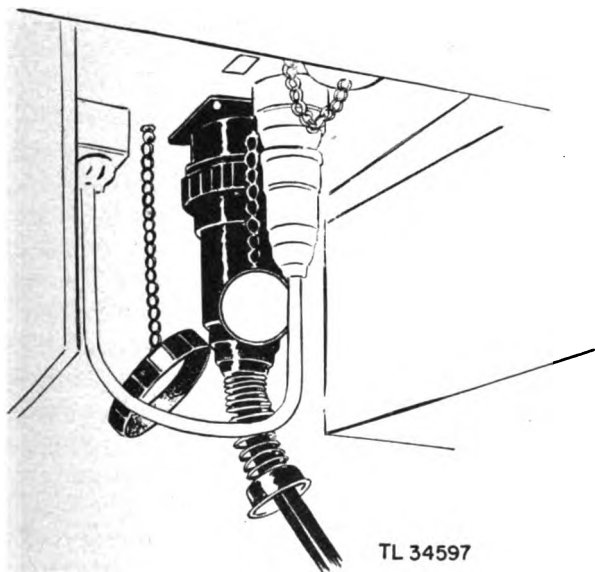

Figure 1. Main power plug.
c. **SAFETY PRECAUTIONS.** (1) Read the safety precautions given in the Preparatory Steps Item for each component before performing any maintenance inside the component. Remove the power cable plug from the receptacle marked "Power" on the data panel (fig. 1) of Radio Set SCR-584 before performing any maintenance inside the lower panel section of Rack FM-80 or on the interconnector plug (fig. 6) inside the power supply compartment.
(2) The Preparatory Steps Item is the first item for each component.